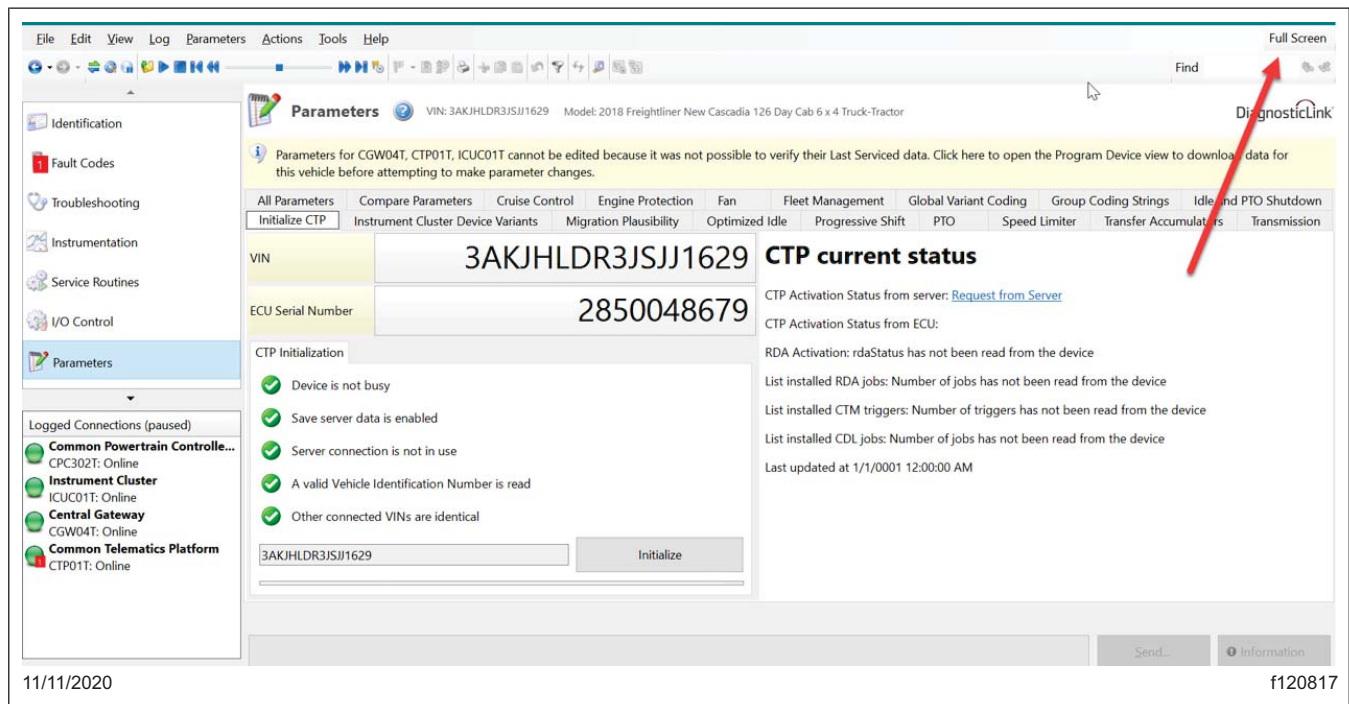

Fig. 4, CTP Activation Status
16. With the initialize CTP panel still open, click the full screen button located on the top right side of the DiagnosticLink window. See Fig. 4.